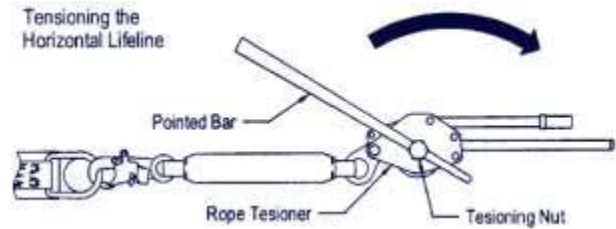

Figure 5
**15. Remove Slack from HLL (Figure 5)**